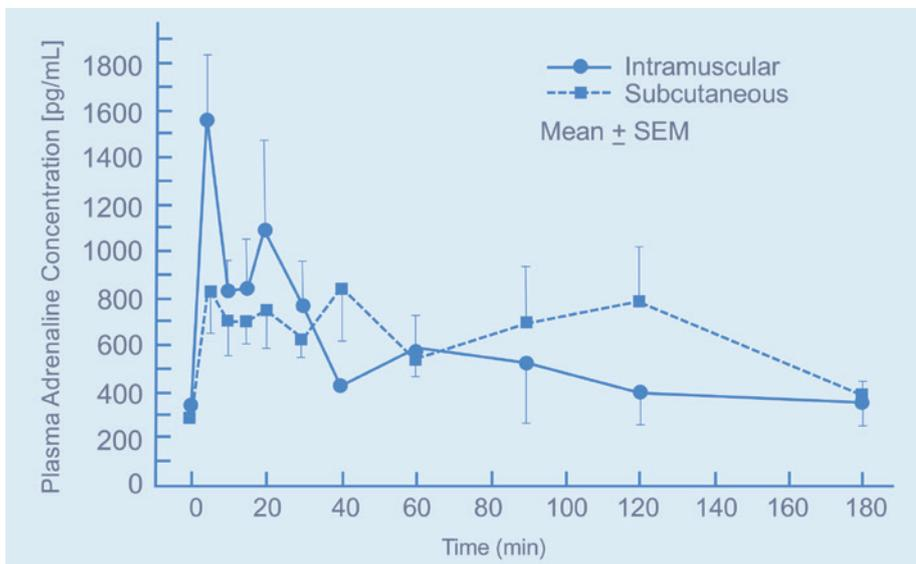

Figure 5: Plasma adrenaline concentration for intramuscular and subcutaneous injection over time.1
In crisis applications, autoinjectors are used for delivering adrenaline during anaphylactic shock. The pharmacokinetic (PK) properties of adrenaline require a high blood plasma concentration ( $C_{max}$ ); therefore, intramuscular administration is recommended into the VL. If adrenaline is delivered for the subcutaneous tissue, there may be a lag in the  $C_{max}$  (Figure 5). Again, this can have devastating consequences for the patient.